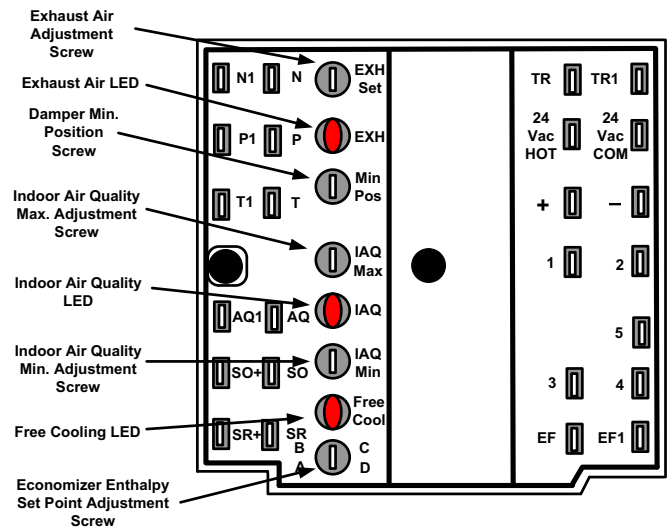

Figure 14: Honeywell Economizer Control W7212
- For a single enthalpy operation carefully turn the set point adjusting screw (found on the damper control module) to the "A", "B", "C" or "D" setting corresponding to the lettered curve of the Enthalpy Set Point Adjustment Figure 14.